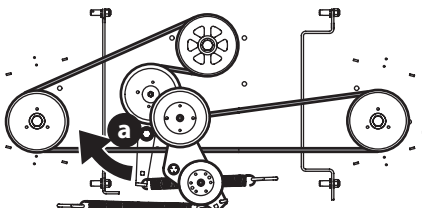

Fig. 54
5. Using a 1/2" drive insert the end into the 1/2" square opening in the deck idler assembly (a) and rotate the deck idler assembly (a) clockwise (Fig. 54). While holding the deck idler assembly (a), loosen the deck belt from the pulley and slide the belt away from the pulley.
6. Route the new belt (Fig. 54). Then reinstall the deck and PTO belt.